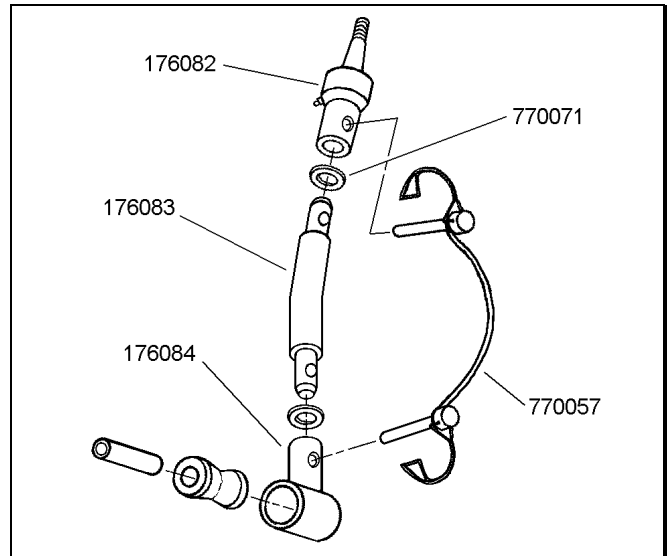

Figure 9
4) ☒ Connect the bottom socket assembly to a top swivel (176082) with the center section. Insert a set of locking pins (770057) as shown in figure 9.